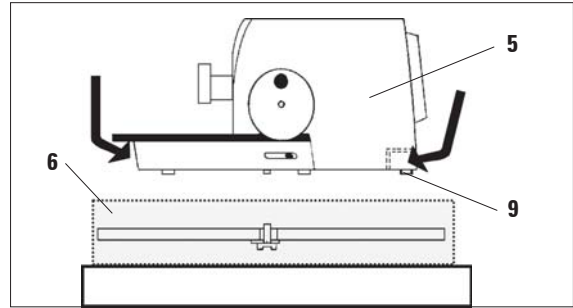

Fig. 6
- By holding the instrument (5) at the front by the baseplate, and at the rear by the recessed grip (Fig. 6), lift it out of the molded cushion (6) of the packaging and place it on a stable laboratory table.
- The two sliding elements (9) located on the rear of the base plate make it easier to move the instrument on the table.